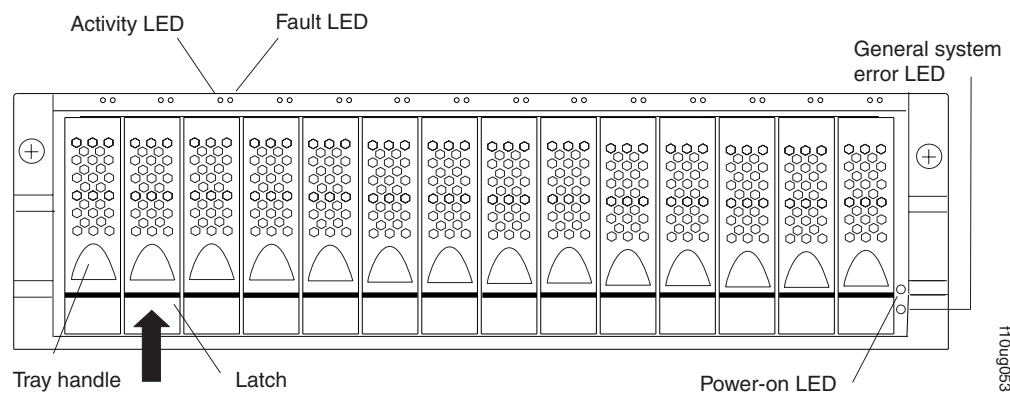

Figure 61. Hot-swap hard disk drive LEDs
2. Check for Fault LEDs shown in Figure 61. If any amber LEDs are lit, see Chapter 6, “Hardware maintenance,” on page 119.
- a. Release the latch on the drive CRU by pinching together the blue line on the tray latch and the finger hole on the tray handle, as shown by the arrow in Figure 61.